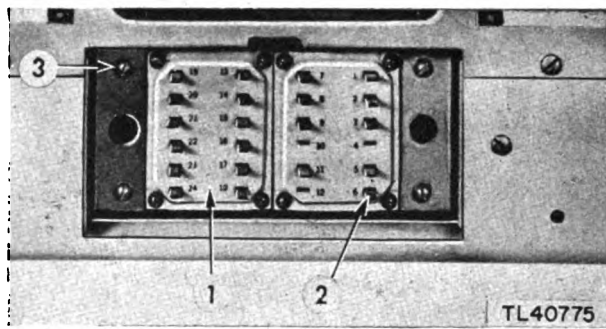

Figure 30. Interconnector plug—close-up.
(b) The Lapp connector ⑫. Use the crocus cloth on the pins, but do not use it on the ceramic insulation. See figure 30 for a close-up of the Lapp plug or interconnector. Use a cleaning agent and a clean cloth. Remove the white film left by the cleaning agent.